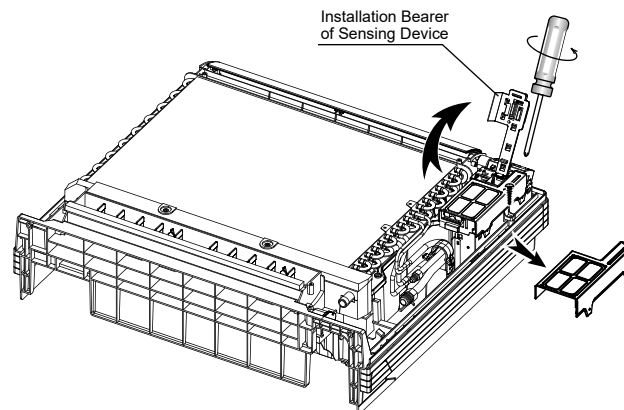

Fig.9-1
- The installation bearer of the sensing device should be rotated to another side, and then taken off the cover of electrical box. (Take off the electrical box cover as well, if the capacity is 18000btu/hr, and is using the network function.) Refer to Fig.9-1.